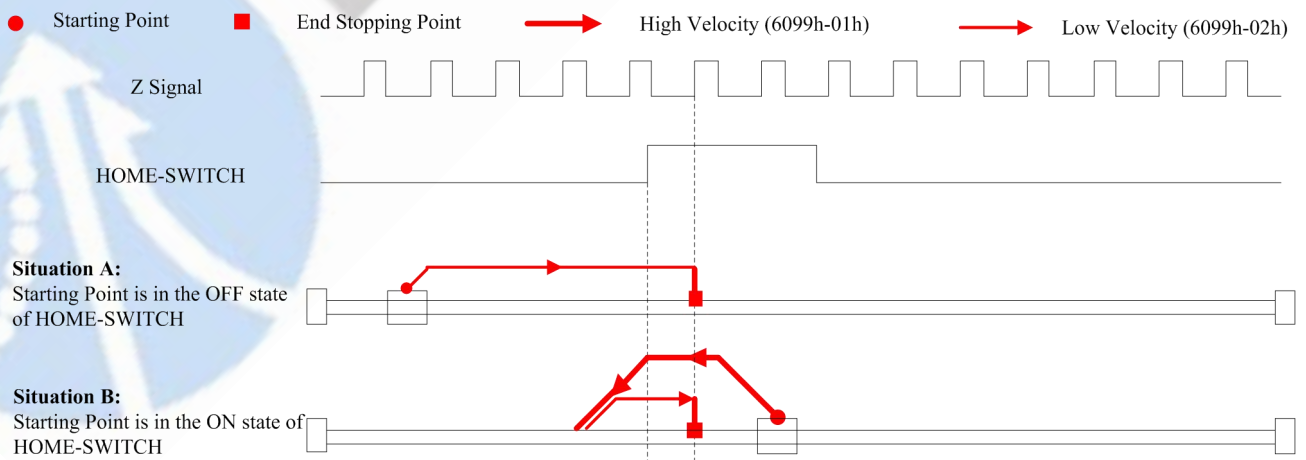

Figure 7-4: Method 4
- If the motor starting point is in the OFF state of HOME-SWITCH like Situation A, it will move toward positive direction at Low Homing Velocity (6099-02h) and stop at the first effective Z signal after leaving the HOME-SWITCH, as shown in Figure 7-4.